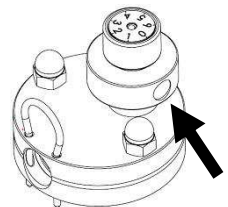

fig. 14
- ⚠ The hole for the suction pipe goes to the right, not to the back! (fig. 14)**